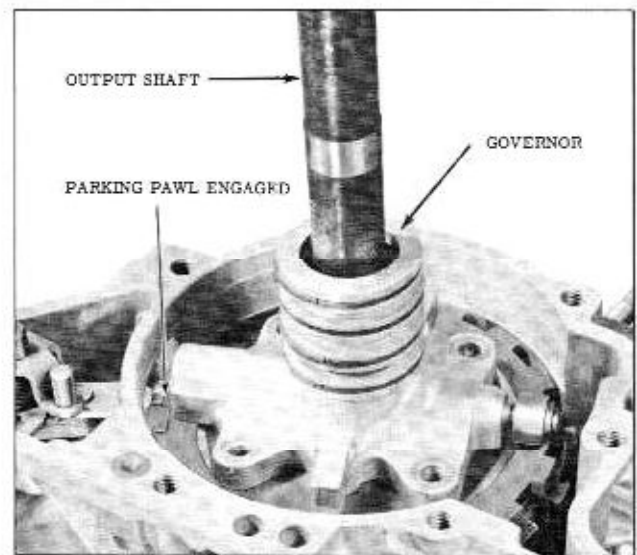

Fig. 3-114 Installing Governor
5. Engage parking pawl. (Fig. 3-114)